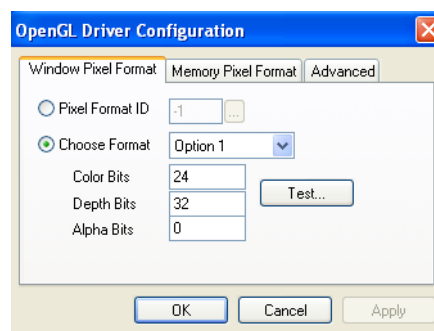

Figure 5-96: *OpenGL Driver Configuration* dialog box
4. In the *OpenGL Driver Configuration* dialog box (figure 5-96), select Pixel Format ID and enter this number.